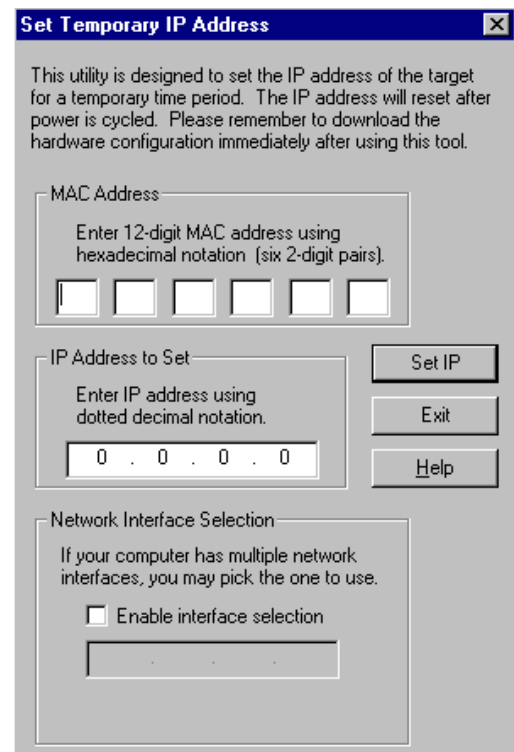

Figure 29: Set Temporary IP Address
2. In the Project tab of the Navigator, right click the PACSystems target, choose Offline Commands, and then choose Set Temporary IP Address. The Set Temporary IP Address dialog box (Figure 29) appears.